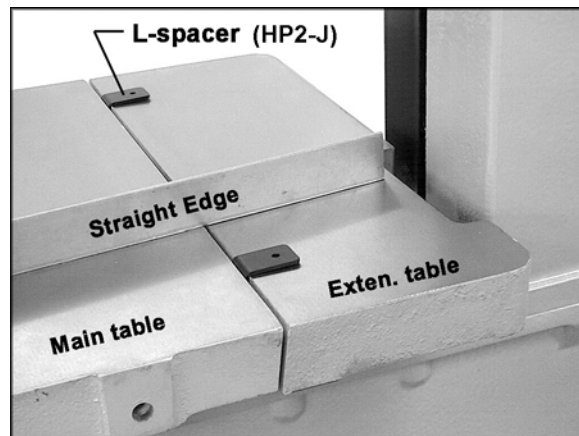

Figure 24
2. Place a straight edge (Figure 24) across both tables, at several points along the tables. If the extension table is not level with the main table, use the level board beneath to achieve this, as follows.
5. Adjust the gap between the extension table and the main table. This gap can be easily set by using the provided *L-spacers* (HP2-J) (Figure 24). Place the L-spacers between the tables as shown, and nudge the extension table toward the main table as far as it will go.